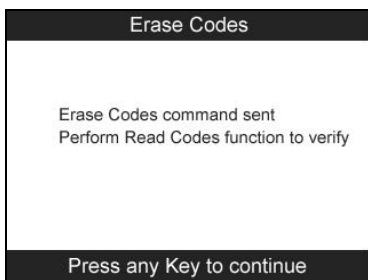

Figure 3.30
- 4) If the erase command is successfully sent, a notice screen will show up, press any button to confirm and continue the TPMS diagnostic function. (Figure 3.30)